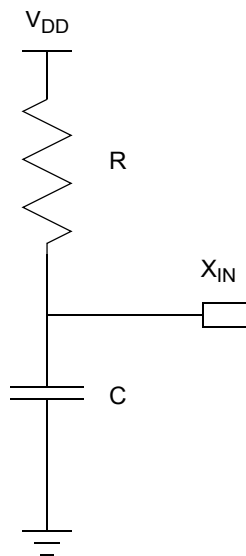

**Figure 41. Connecting the On-Chip Oscillator to an External RC Network**
Figure 41 displays a recommended configuration for connection with an external resistor-capacitor (RC) network.